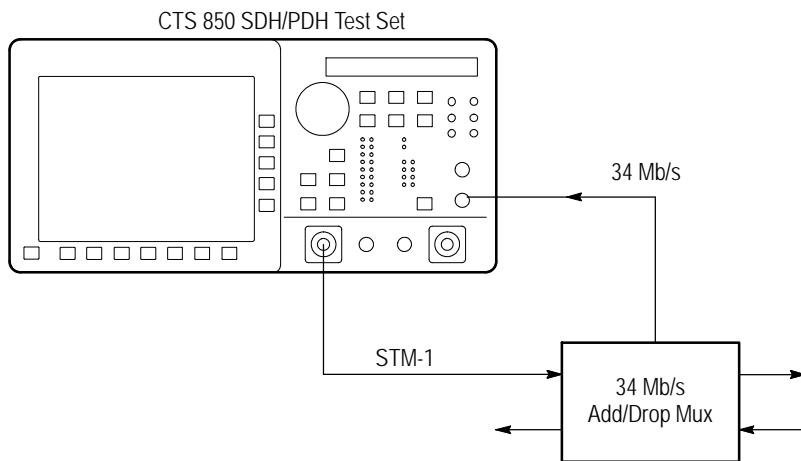

Figure 3 11: Setup to Check Video Timing Quality
1. Connect the CTS850 to the network element as shown in Figure 3 11.